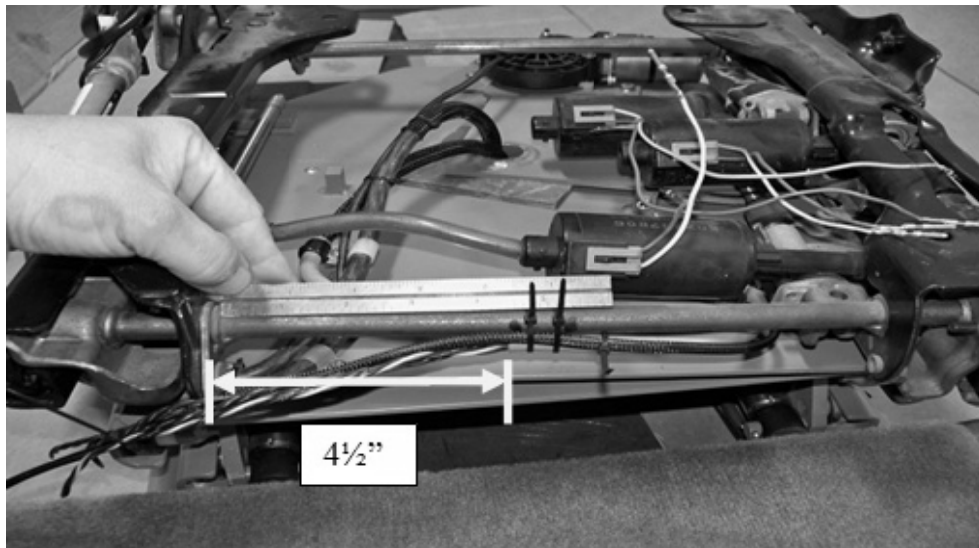

Figure 1.5
e.) *Econoline Power:* Apply temporary power & ground to the OEM seat. Run the OEM seat all the way down and rearward. Using Figure 1.5 and 1.6, attach the 18/12 wire harness and the power & ground harness to the round torsion bar at the front of the OEM seat. Route the harnesses as shown, and attach as